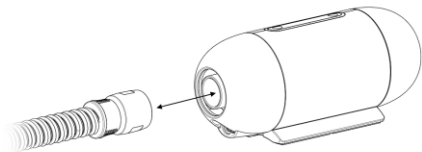

Fig. 15-1
2. Hold the cuff of the tubing and gently pull it away from the device as shown in Fig. 15-1.